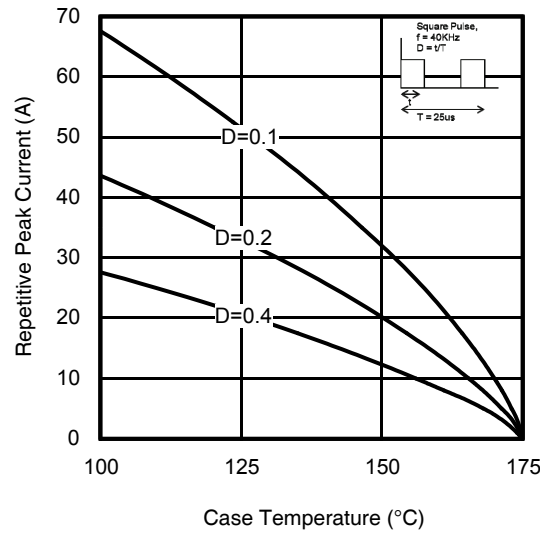

Fig. 26. Maximum Diode Repetitive Forward Peak Current vs. Case Temperature
- ① $V_{CC} = 80\% (V_{CES}), V_{GE} = 20V, R_G = 10\Omega, L = 210\mu H$.
- ② R_θ is measured at T_J of approximately 90°C .
- ③ Refer to AN-1086 for guidelines for measuring $V_{(BR)CES}$ safely.
- ④ Pulse width limited by max. junction temperature.
- ⑤ Values influenced by parasitic L and C in measurement.
- ⑥ $f_{sw} = 40KHz$, refer to figure 26.